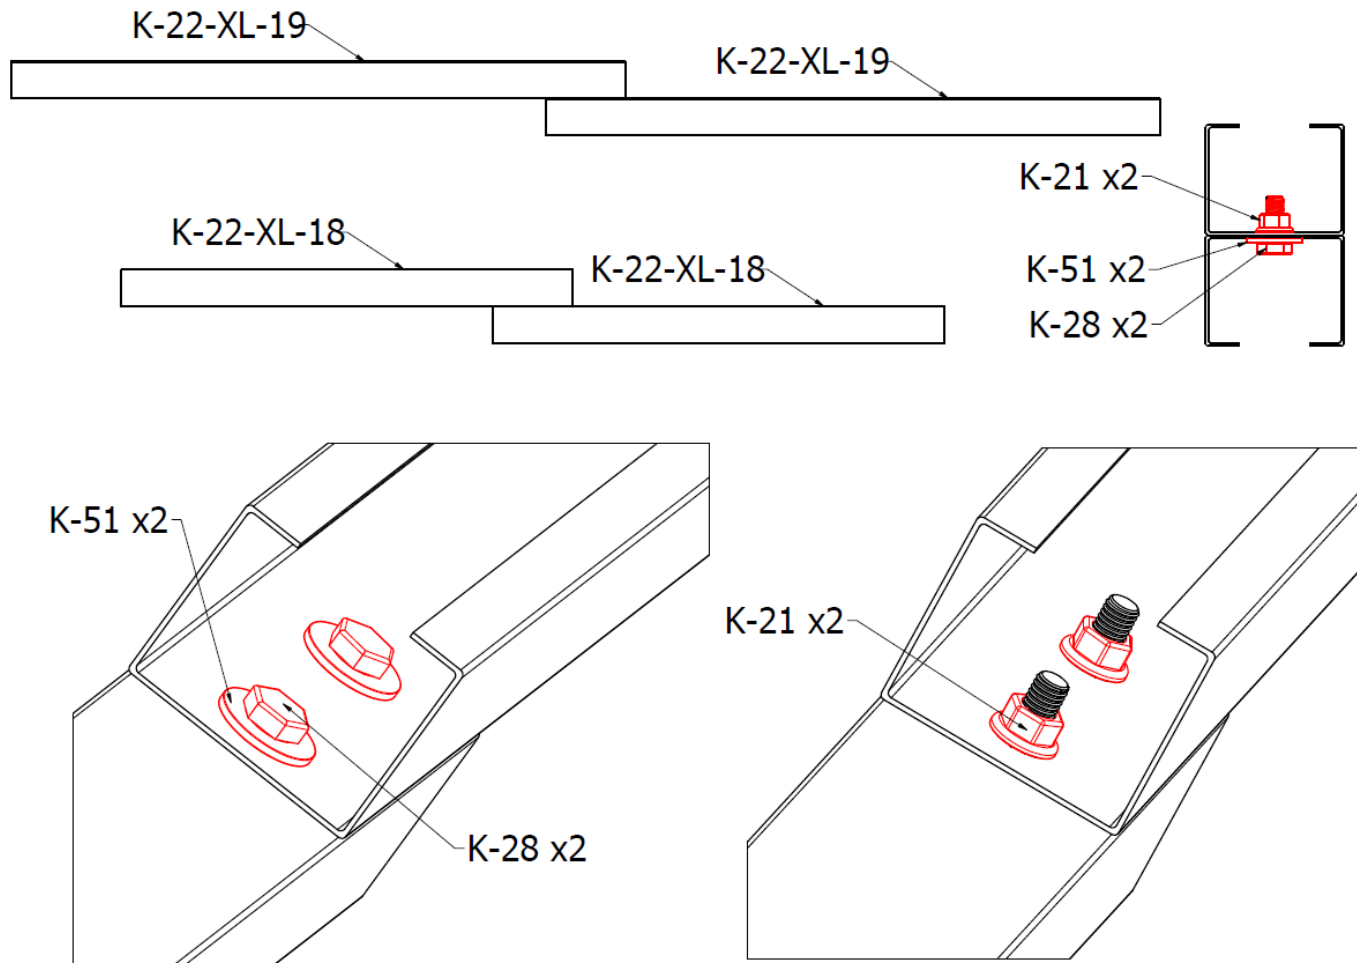

FIG. 7. Arm twisting
7. Once the rafters have been correctly assembled to the support, proceed to screw together, using the prepared holes, the two parts of the long arms K-22-XL-19 and the two parts of the short arms K-22-XL-18 – Fig.7. **To screw together two identical arm sections, use two K-28 hex head screws, two K-51 washers, and two K-21 nuts.**